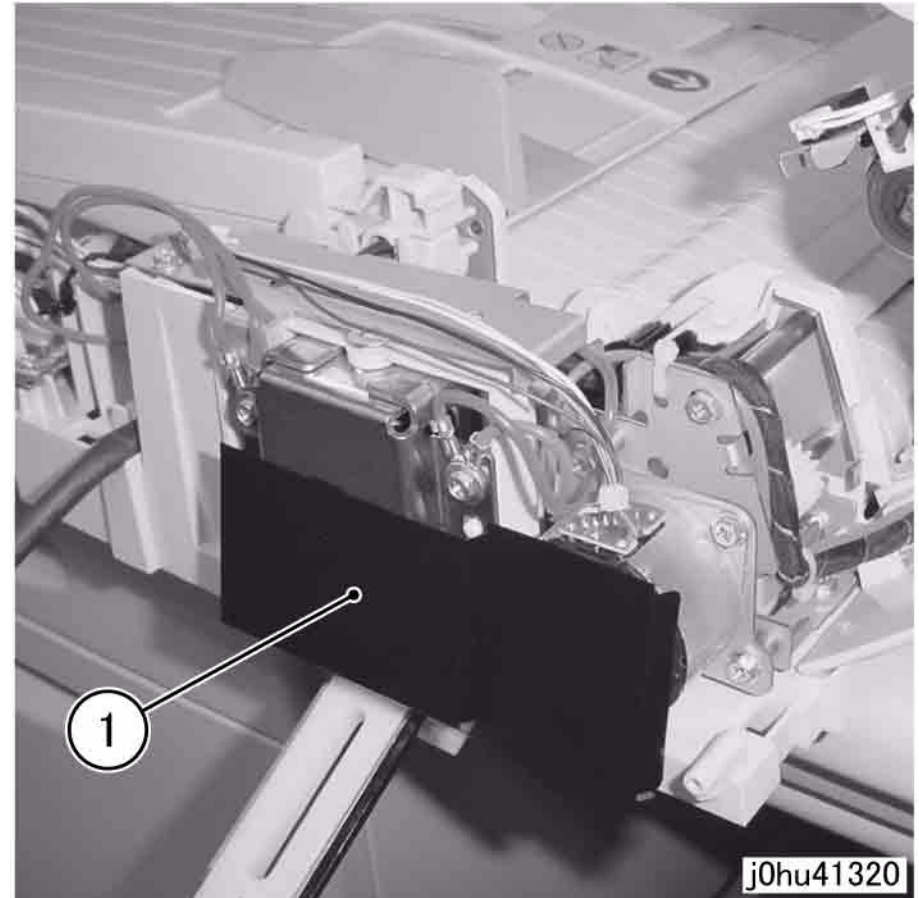

Figure 1 Remove the Film Cover
4. Remove the Film Cover (Figure 1).